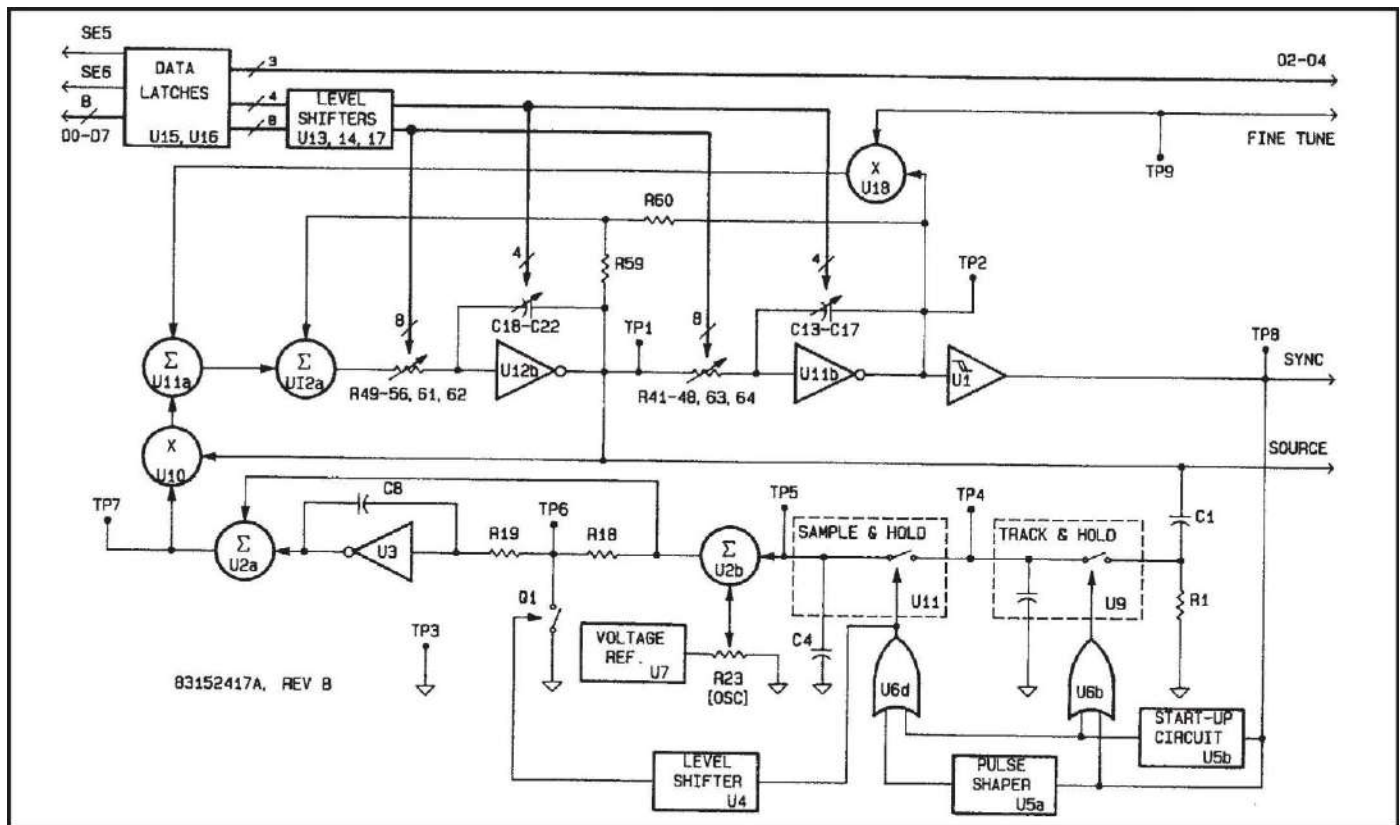

Figure 4-9. Source Circuits Block Diagram.
**4-68. A6 Source Circuits.** The source oscillator is a digitally tuned, automatically leveled state-variable oscillator. The source circuits generate a sinusoidal audio waveform at a constant amplitude over a frequency range of 10 Hz to 140 kHz. Refer to Figure 4-9.